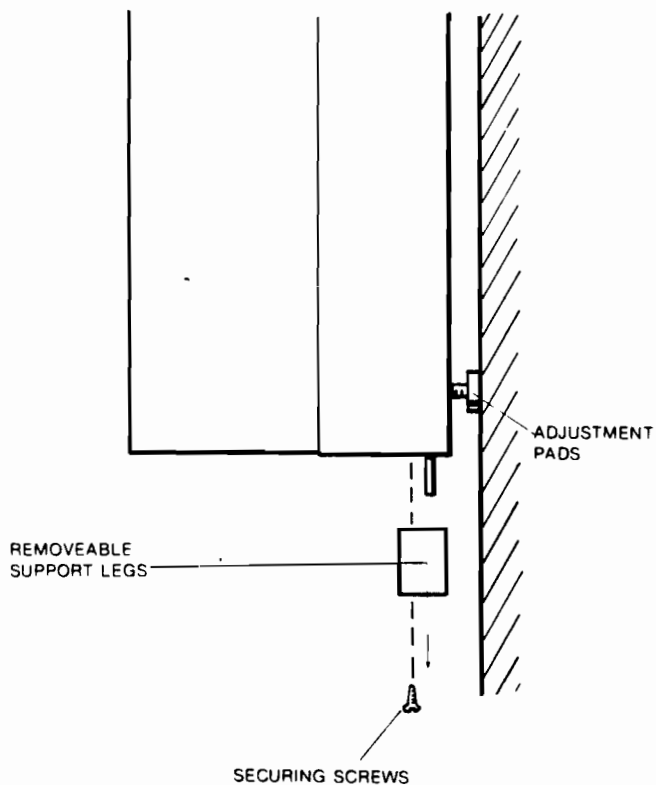
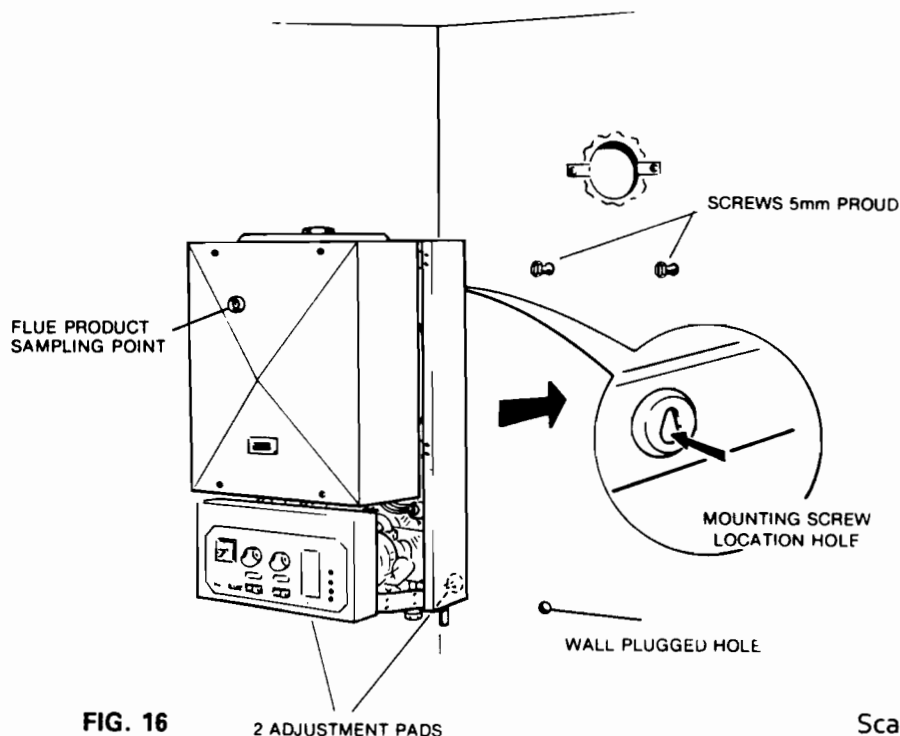

FIG. 10 BOILER ALIGNMENT
FIG. 16
Two adjustment pads located at the bottom of the combination boiler back panel, are provided to facilitate combination boiler alignment (see Fig. 10).
**Note:** Two removable support legs are fitted to the base of the boiler to protect the pipework, care must still be taken when handling the combination boiler to prevent damage to pipework situated at the base of the appliance (see Fig. 10).
- j) Lift the appliance into position, ensure the screw heads go through the two pear shaped mounting holes (see Fig. 16). Take up any wall irregularities by using the finger adjustment pads (see Fig. 10). Fully tighten the two top mounting screws.